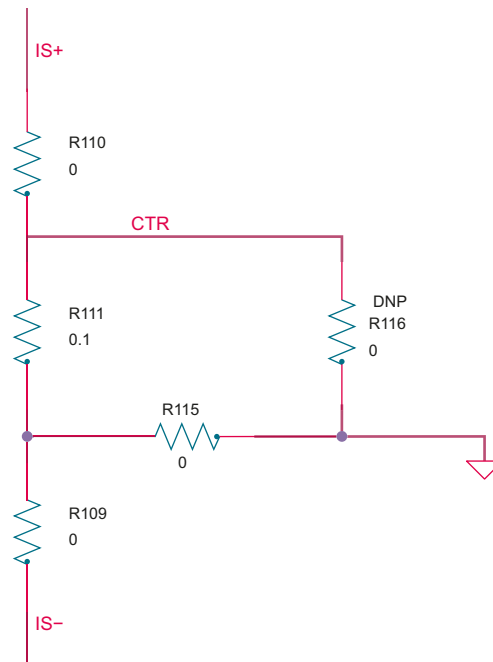

Figure 14. Resistor configuration
1. Make sure that R109, R110, R111 (0.1 Ω shunt) and R115 are populated and R116 is not placed (see Figure 14).